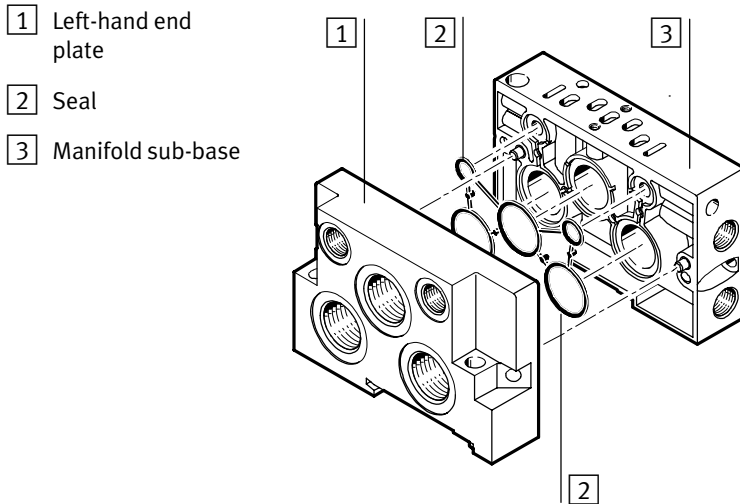

Fig. 5/5: Fitting end plates
4. Screw the components. Tighten the screws at first slightly and then with 3.0 Nm ($\pm 10\%$). (position see Fig. 5/3).